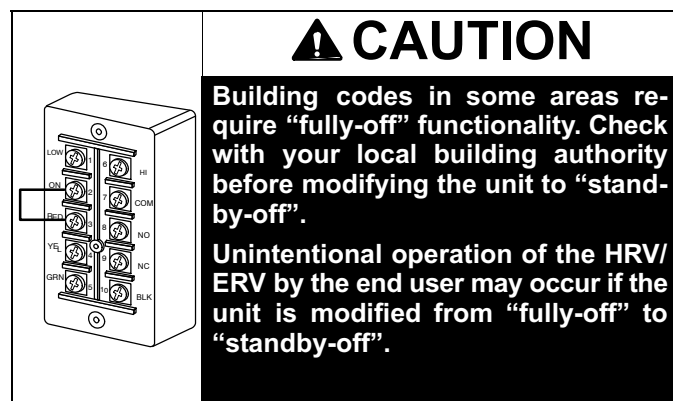

Figure 20. Terminal Block on HRV/ERV
The “fully-off” feature can be modified to “standby-off” by adding a jumper on the Terminal Block between 2 (ON) and 3 (RED) (see figure 20).